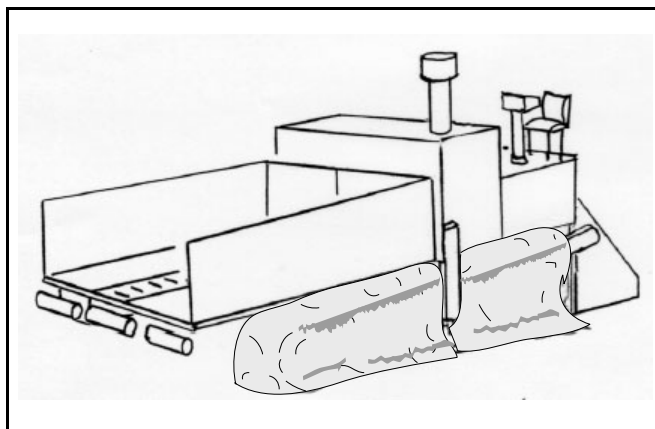

Figure 3 - 50 Cover Track for Outdoor Storage
- **Covering track for long term outdoor storage.** Rubber is affected by exposure to sunlight (ozone). Covering the track with something like a vinyl sheet if the machine is idle for an extended length of time, such as over Winter, will help keep the surface in good condition. (Figure 3 - 50) This is especially true where the rubber is bent and stretched around wheels.